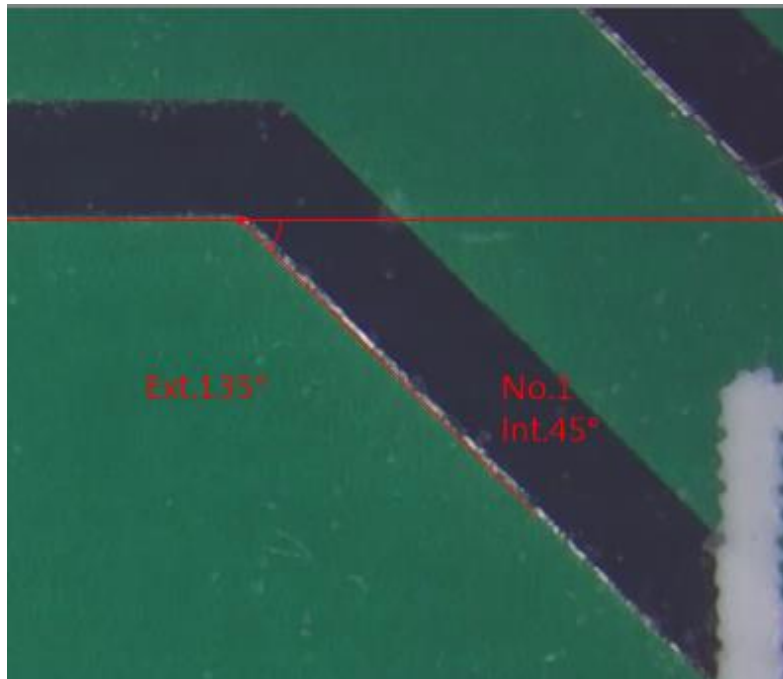

Fig 5-16 Horizontal Angle
- (13) Horizontal Angle : Measure any Horizontal Angle by a Horizontal line that can apply  tool. Draw a Horizontal line, auto pop up the other oblique line to the Horizontal line, then auto measure the inner Angle/ external Angle as Fig. 5-16 shown.